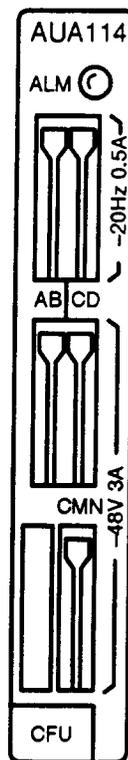

Figure 1 — AUA114 Channel Fuse Unit
1. Get **AUA114** channel fuse unit (**CFU**) (Figure 1) and inspect for possible damage.